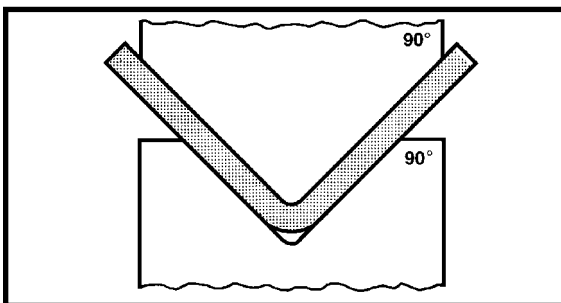

FIGURE 5-19 Bottoming
- ◆ **DO NOT** attempt to air bend a part when TONNAGE reversal has been selected. Bottoming dies must be used when reversing on tonnage. See Figure 5-19.